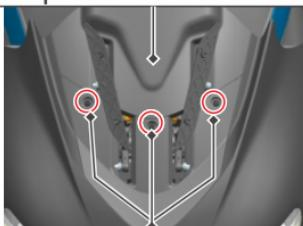

Figure 2
2. Remove the 3 expansion nails on the upper part of the front panel middle cover, and remove the front head cover assembly.(Fig 2:The red circle is the fixed expansion nail)